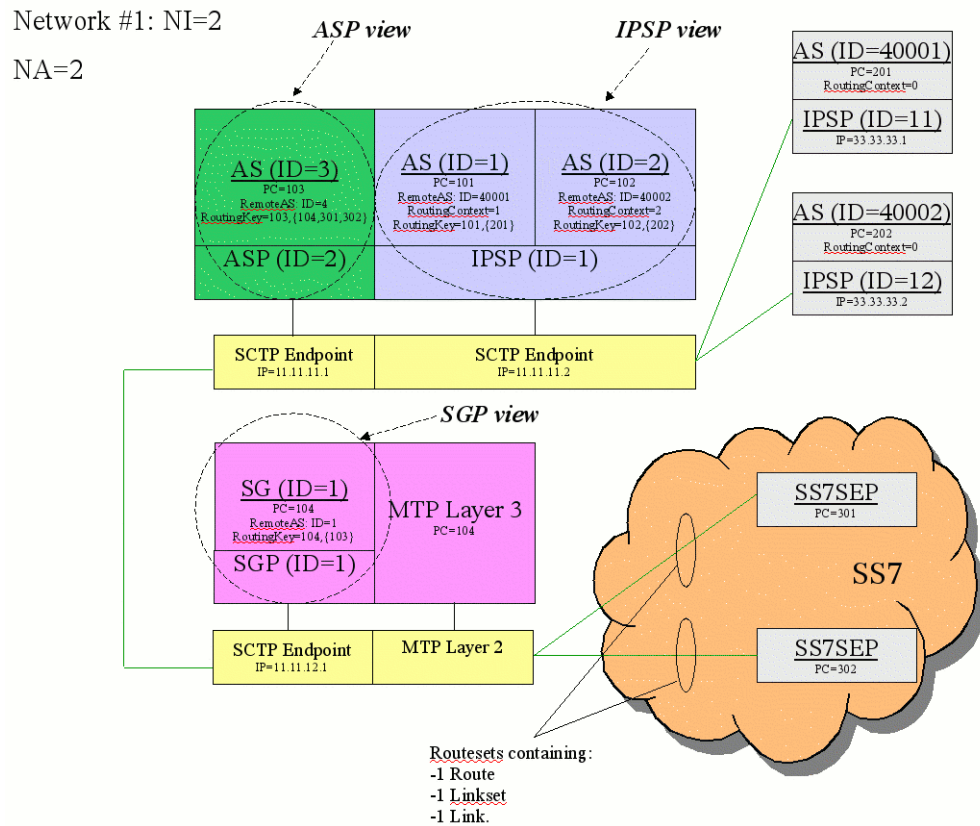
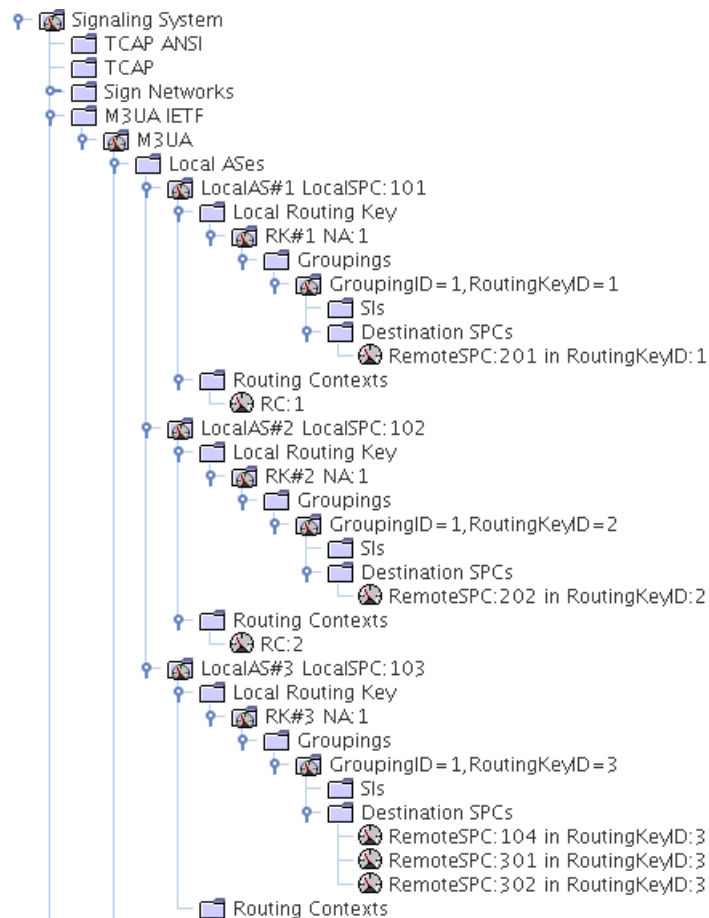

Figure 1 Network Configuration Example
Figure 4 LocalAS#1, LocalAS#2 and LocalAS#3 is created along with RoutingKeys and Groupings.
The example in Section 2.1 on page 3 shows how to configure an ASP/IPSP node for M3UA. The ASP view and the IPSP view in Figure 1 are configured. The SGP view is remote in this case. The configured node handles both IPSP to IPSP communication as well as ASP to SGP communication. There are two AS:es that are served by the same IPSP, and one AS that is served by an ASP. The example continues in Section 2.2 on page 14 where it is shown how to configure the MTP-L3 part in the ASP/IPSP node.
The example in Section 2.3 on page 18 shows how to configure an SGP/STP node. The SGP view in Figure 1 and the STP MTP-L3 part are configured. The ASP and IPSP views are remote in this case. The SGP-view is configured to relay between the IP network and the SS7 network. The SG communicates with a Remote AS and the MTP Layer 3 handles the SS7 communication.
- The point codes (PC) and IP addresses in this document are examples only, which must be replaced in a real world configuration.
- The configuration in Figure 1 is a simplified configuration example that lacks redundancy. In a real world configuration redundant associations should be configured to avoid loss of traffic during software upgrade or similar. To configure redundant associations one more SCTP FE need to be configured in a similar way as shown in the example. The Remote sides need to support the redundant associations in the second FE by having one more Remote IPSP per Remote AS. There should be one more SG that provides alternative routes to the SS7SEP:s (301 and 302 in the example). There should be one more Remote SGP per SG.
For the ASP/IPSP node the following point codes (PC:s) from Figure 1 shall be created:
When configuring the ASP and IPSP views in Figure 1 the SGP view will be remote, which means that the following LocalSP:s shall be created:
The three Local AS:es in the ASP and IPSP views in Figure 1 shall be created (see also Figure 4 for the goal of this section):
The two Remote AS:es with PC=201 and 202 in Figure 1 shall be created. The property Routing Context (RC) in each Remote AS can be set to zero, which means not used, since there is only one Remote AS per Remote IPSP in the example:
Two Remote SP:s of type IPSP, that are remote to the IPSP view in Figure 1, shall be created:
2. Update the property **Remote SP ID** to 11, since the **Remote SP** cannot use the same ID as the **Remote SGP** in Figure 1.